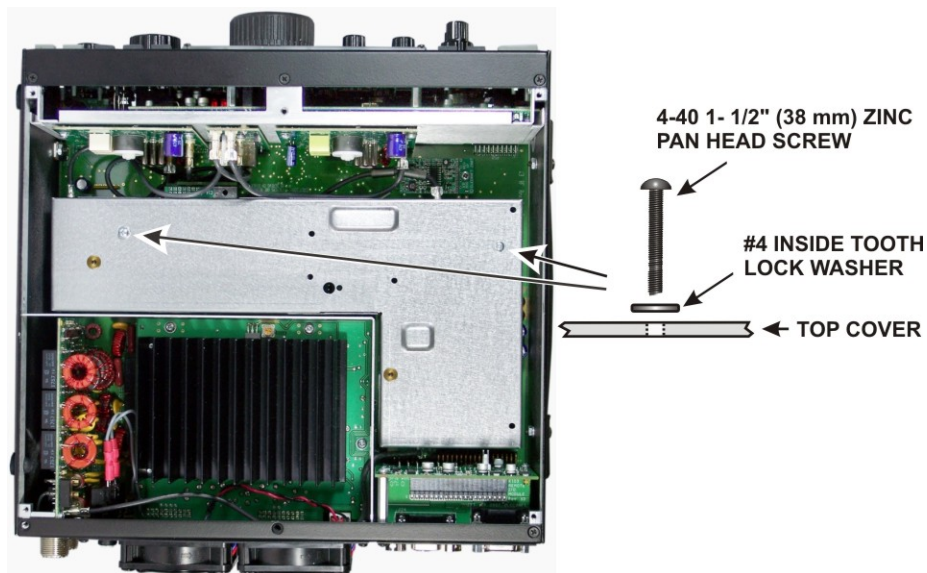

Figure 2. Removing the KRX3 Module.
If your K3 is equipped with the optional KRX3 Subreceiver, you must remove the subreceiver module to install the KBPF3 in either the main receiver or the subreceiver. The KRX3 subreceiver module is the “L” shaped metal enclosure (see Figure 2). Remove the subreceiver module as follows:
- Remove the two 1-1/2” (38 mm) screws and lock washers shown in Figure 2. These screws extend all the way through the KRX3 module and secure it to standoffs mounted on the main RF board that fills the bottom of the K3.